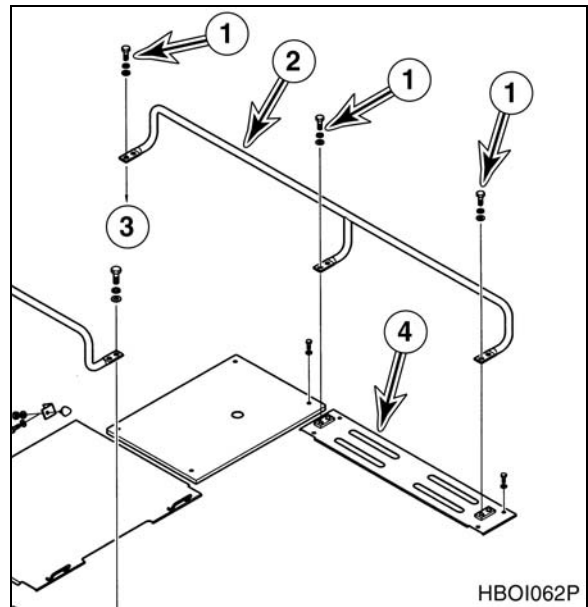

Figure 9
19. Remove six bolts and washers (1, Figure 9), and handrail (2) from fuel tank (3) and cover (4).